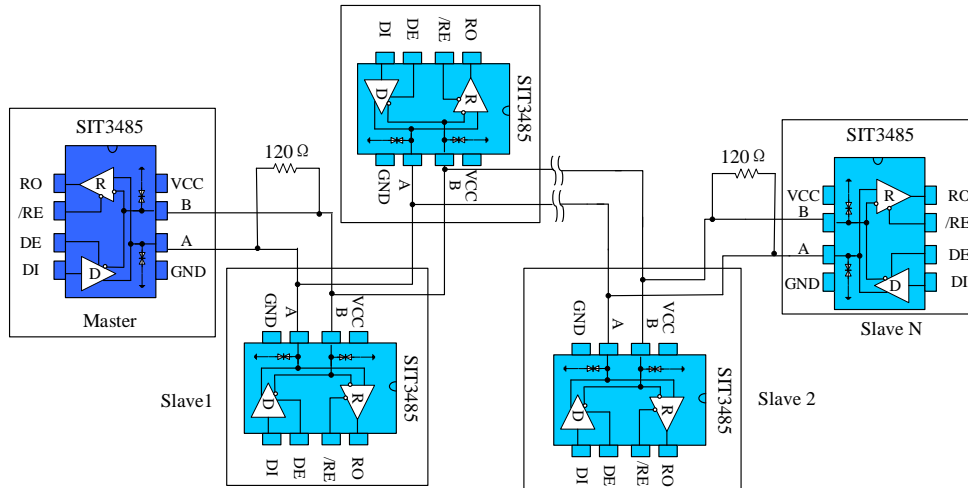

Figure 10 Daisy chain topology type RS485 communications network
4.2 Hand in hand type: Also known as daisy chain topology, is the prior RS485 bus topology recommended by the TIA organization. The routing method is the master device and a number of slave devices connected in hand-handle configuration, as shown in Figure 10. It should be noted at that hand in handle means no branch line. This kind of topology has the advantages of small reflection and high rate of success communication.